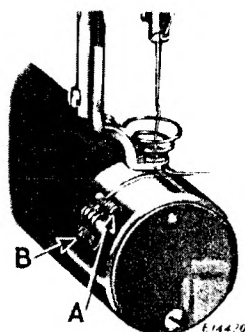

Fig. 10. Thread Cutter
NOTE: When the machine is equipped with Cylinder End Cover Thread Cutter (No. 241230 complete), the bobbin thread can be cut before removing the work from the cylinder by moving the darn back over the cutter until the bobbin thread enters the nipper spring (A, Fig. 10) and is cut by the cutter (B). The end of the bobbin thread is held in the nipper spring ready for the next darn.